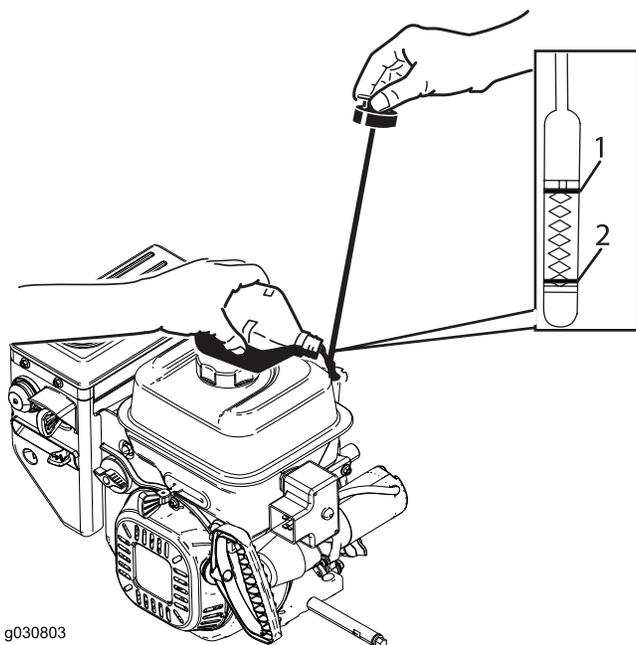

Figure 43
2. Remove the dipstick and check the oil level (Figure 43). If the oil level is below the Add mark on the dipstick, add oil. Refer to 6 Filling the Engine with Oil (page 9).